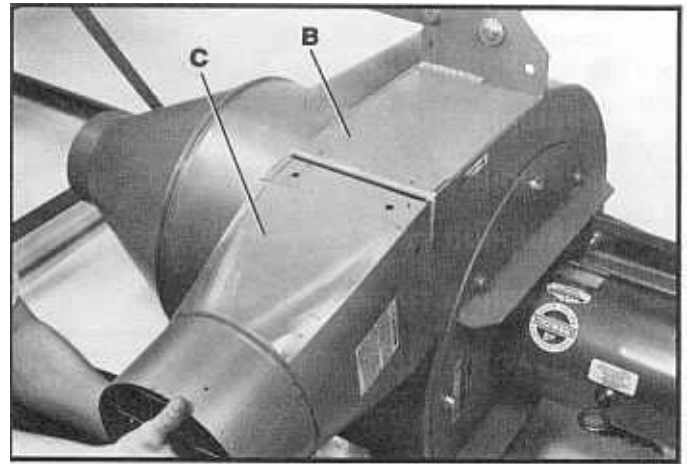
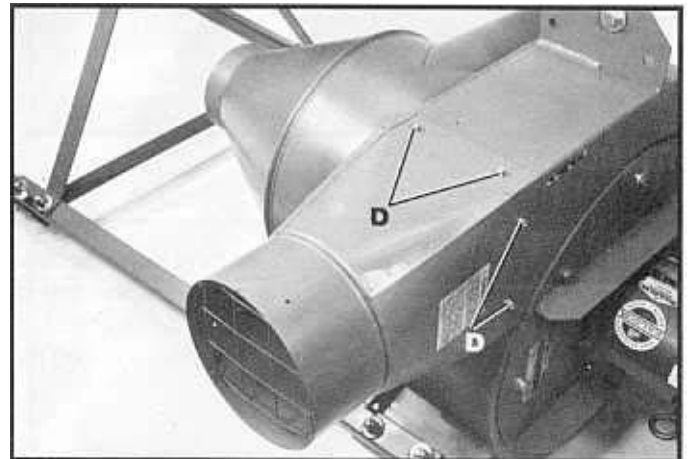

Fig. 16
Fig. 17
2. Position outlet connector (C) Fig. 16, over lip of fan housing (B). Align holes in outlet connector (C) Fig. 16, with pre-drilled holes in fan housing (B), and fasten with eight #14 x 1/2" pan head screws, four of which are shown at (D) Fig. 17.